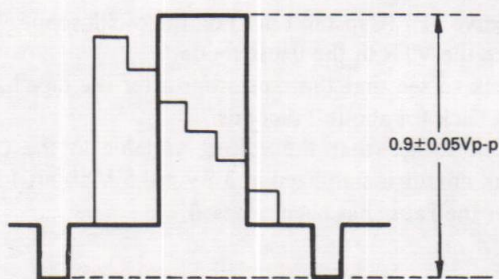

Figure 66
- ① Place the VTR in the Playback mode and play back the stair waveform recorded on the alignment tape.
- ② Observe both ends of a resistor across the 75 ohm terminal on the oscilloscope (at the external trigger TP208, then adjust resistor R486 (PB level) so that the playback video signal level will be as shown in Fig. 66. below.